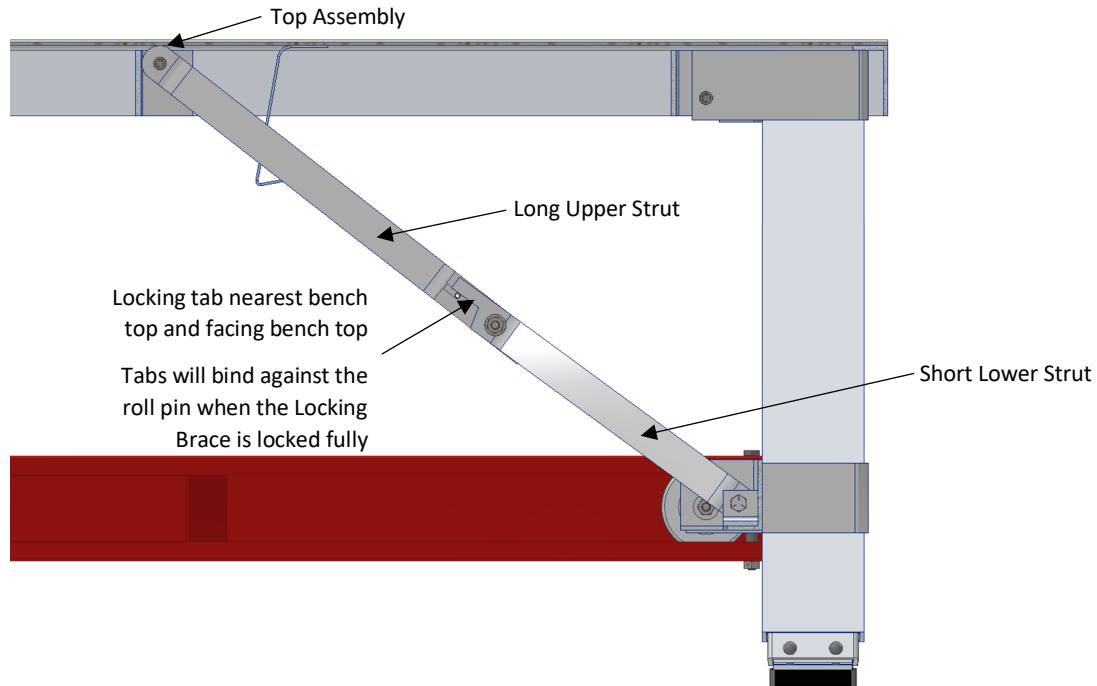

Figure 5
WARNING: IF THE LOCKING BRACE ASSEMBLY ISN'T PROPERLY ORIENTED BEFORE STARTING THE INSTALLATION PROCESS IT IS POSSIBLE TO INSTALL THE LOCKING BRACE UPSIDE DOWN. CAREFULLY REVIEW Figure 5 BEFORE STARTING INSTALLATION PROCESS.
1. Orient the Locking Brace Assembly as indicated in Figure 5.